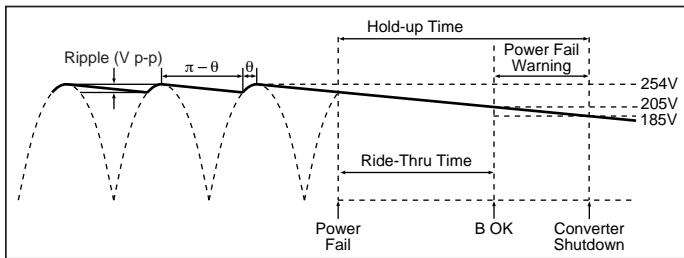
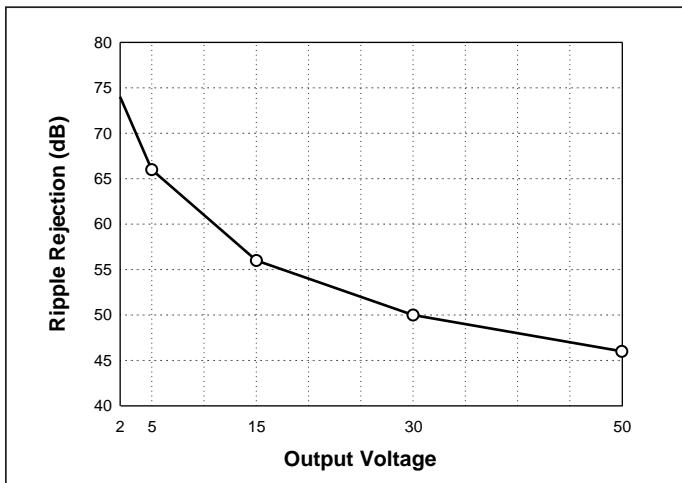

Figure 12—Hold-up time
Figure 16—Converter ripple rejection vs. output voltage
Hold-up Capacitors. Hold-up capacitor values should be determined according to output bus voltage ripple, power fail hold-up time, and ride-through time. (See Fig. 12). Many applications require the power supply to maintain output regulation during a momentary power failure of specified duration, i.e., the converters must hold-up or ride-through such an event while maintaining undisturbed output voltage regulation. Similarly, many of these same systems require notification of an impending power failure in order to allow time to perform an orderly shutdown.
The holdup time (Δt) is defined as the interval between power fail warning (B OK) and converter shutdown (EN) as illustrated in Fig. 12. The Bus-OK and Enable thresholds are 205V and 185V, respectively. A simplified relationship between hold-up time, operating power, and bus capacitance is obtained by inserting these constants:
For example, a converter whose output is 15V and nominal input is 300V will provide 56dB ripple rejection, i.e., 10V p-p of input ripple will produce 15mV p-p of output ripple. (See Fig. 16) Equation 3 is again used to determine the required capacitance. In this case, V_1 and V_2 are the instantaneous values of bus voltage at the peaks and valleys (see Fig. 12) of the ripple, respectively. The capacitors must hold up the bus voltage for the time interval (Δt) between peaks of the rectified line as given by:
Fig. 16 is used to determine the ripple rejection of the DC-DC converter and indicates a ripple rejection of approximately 60 dB for a 12 Volt output. If the ripple on the bus voltage is 12Vac and the ripple rejection of the converter is 60 dB, the output ripple of the converter due to ripple on its input (primarily 120Hz) will be 12 mV p-p. Note that 2nd Generation converters have greater ripple rejection than either VI-200s or VI-J00s.